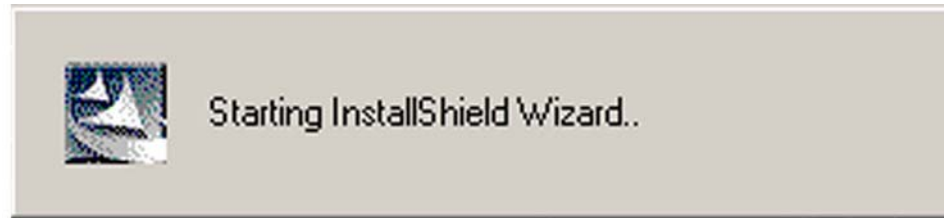

Figure 6-12: Audio Driver Install Shield Wizard Starting
- Step 2:** Once you double click the **setup.exe** icon, the install shield wizard for the audio driver starts. See **Figure 6-12**.